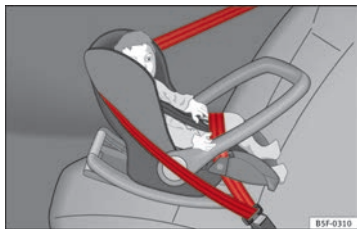

Fig. 26 A group 0 rear-facing child seat fitted on the rear seat
**Group 0:** Infants up to 10 kg (approx. 9 months of age) must travel in the direction opposite to travel ⇒ Fig. 26.
**Group 0+:** Infants up to 13 kg (approx. 18 months old) must travel in the direction opposite to travel ⇒ Fig. 26.